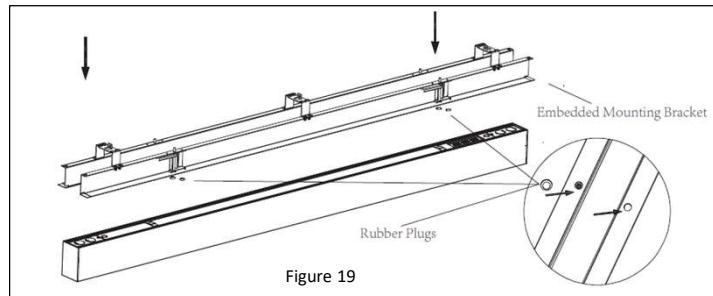

Figure 19
2. Remove the 4 rubber plugs from the mounting bracket, then fit the mounting bracket onto the fixture. *See Figure 19.*